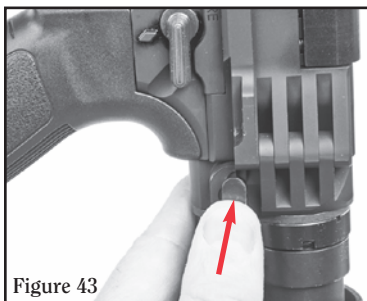

Figure 43
7. To remove the bolt: Close the bolt and push the folding stock release button (see Figure 43).